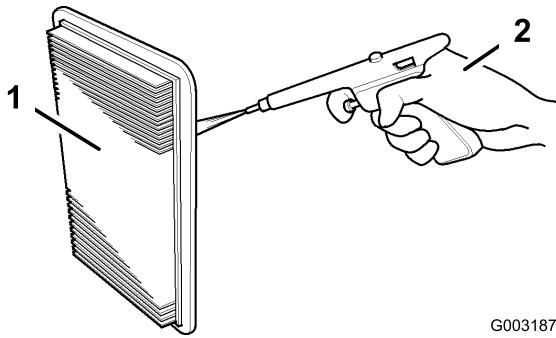

Figure 24
1. Lightly tap the element on a flat surface to remove excess dust and dirt, or blow compressed air (not exceeding 30 psi {207kPa}) through the filter from the inside out (Figure 24).